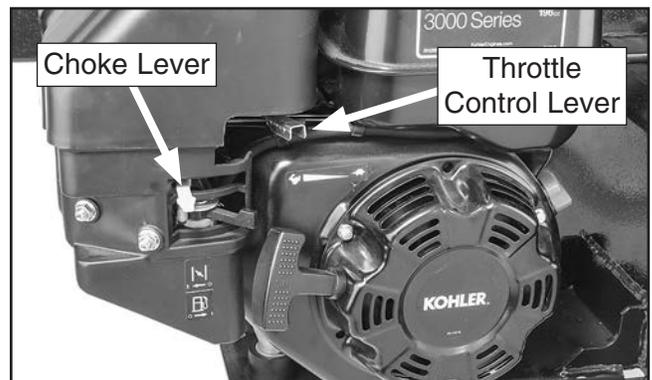

Figure 27. Fuel shutoff lever and throttle lever adjusted to starting positions.
5. Move throttle control lever halfway between SLOW (turtle) and FAST (rabbit), and move choke lever to ON (I) position (see **Figure 27**).